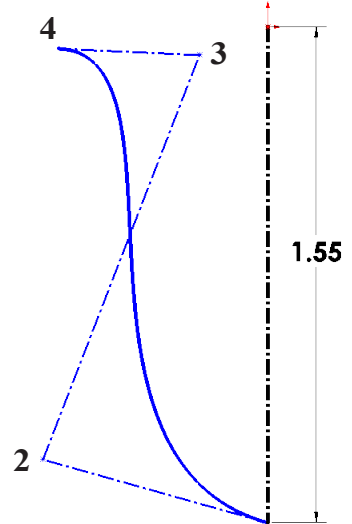

Fig. 3
Step 9. Sketch a **4 control vertex point Spline** start at bottom endpoint of centerline, Fig. 3. Press Escape to end spline.